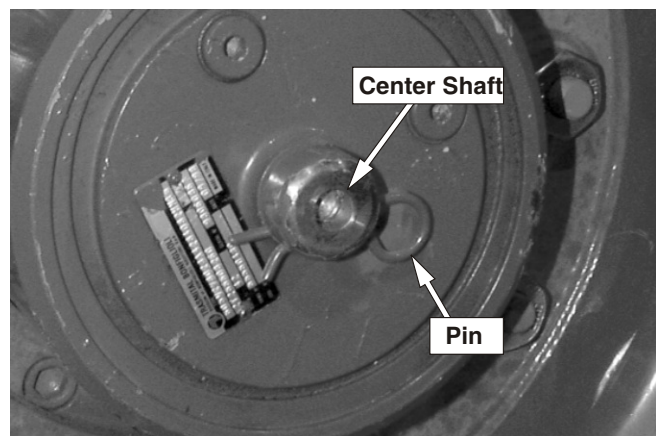

Figure 11.8—Drive Wheel, Pre NZ080829
8. At each drive wheel, remove the pin, push the center shaft in and replace the pin (refer to Figure 11.8).